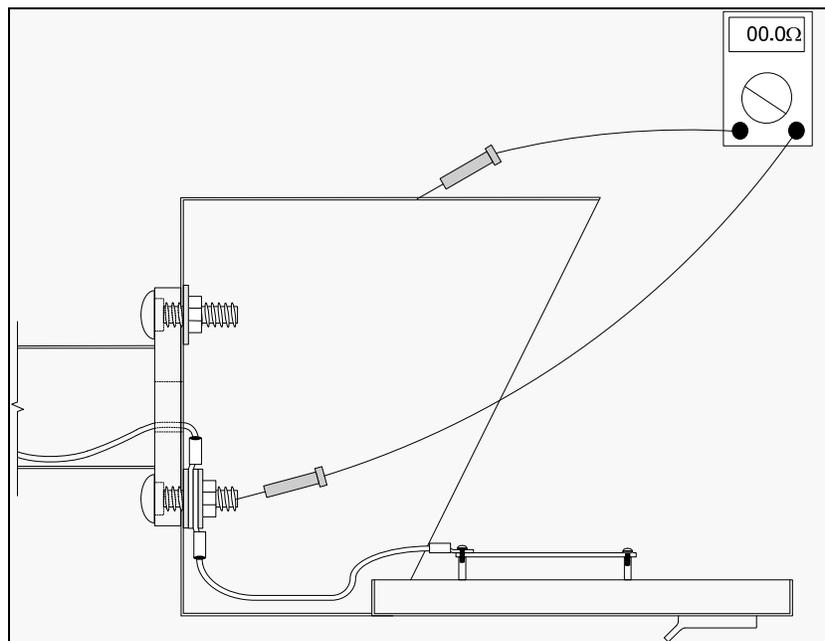

Figure 14 Continuity Testing – Bonding Wire to Enclosure
Step 1: Measure the resistance from the bonding wire to the enclosure as shown in **Figure 14** below.